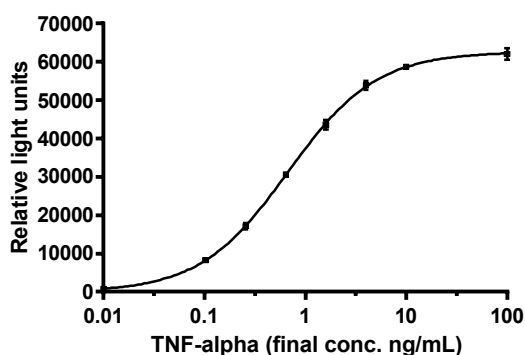

Figure 1. Example of TNF-alpha calibration curve.
The *iLite*[®] TNF-alpha Assay Ready Cells are engineered cells, optimized to express Firefly luciferase (FL) under the control of a NFκB responsive promoter. Binding of TNF-alpha to its receptor results in activation of the NFκB regulated Firefly luciferase reporter gene construct. *iLite*[®] TNF-alpha Assay Ready Cells also contain the Renilla Luciferase (RL) reporter gene, under the control of a constitutive promoter. The constitutive expression of RL allows normalization of TNF-alpha induced FL activity, and renders assay results independent of variations in cell number or serum matrix effects. The luciferase signal can be measured in a luminometer following addition and incubation of luciferase substrate. The Firefly luciferase signal is proportional to the concentration of functional TNF-alpha in a sample (Fig.1).